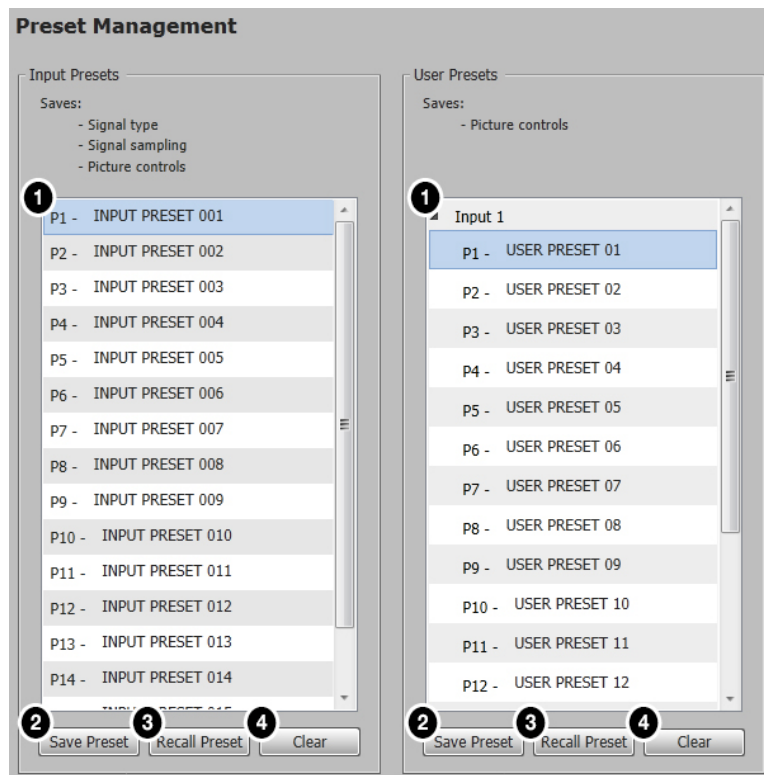

Figure 53. Preset Management Page
1. Select the input preset or user preset (see figure 53, ①) to store the current configuration.
2. Click the **Save Preset** button (②) located in the same **Input Presets** or **User Presets** panel. If the selected preset already has stored information on it, a confirmation dialog box opens.
1. Select the input preset or user preset (see figure 53, **1** on page 72) to be cleared.